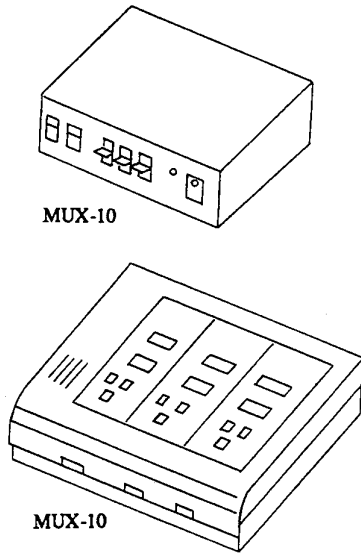

Fig. 21 Digimatic Multiplexer
b. On-line data processing system (Fig. 21)